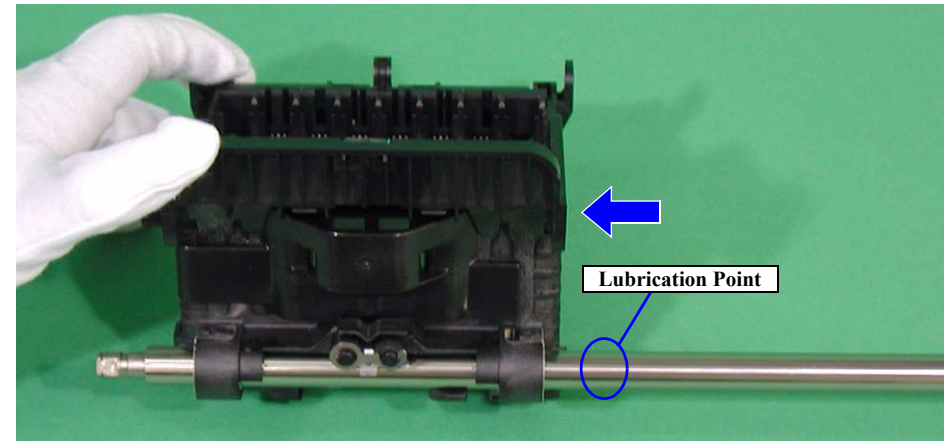

Figure 6-17. Carriage Shaft lubrication (4)
6. Lubricate the grease using a syringe at the point shown in *Figure 6-17*.